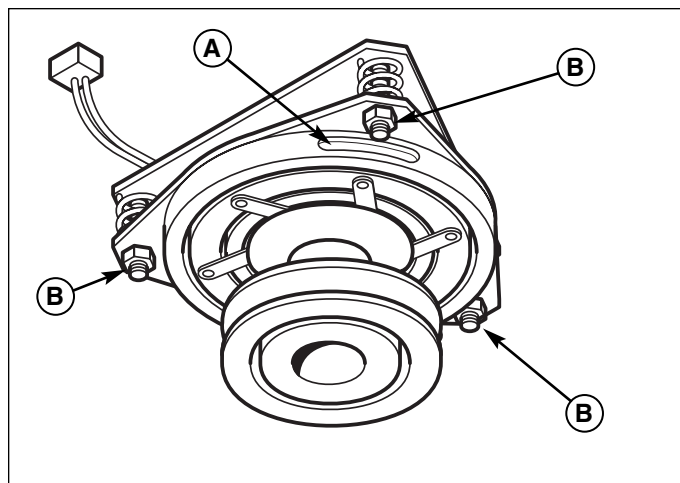

Figure 19. PTO Clutch Adjustment
4. Alternately tighten the adjustment nuts (B, Figure 19) until the rotor face and armature face just contacts the gauge.